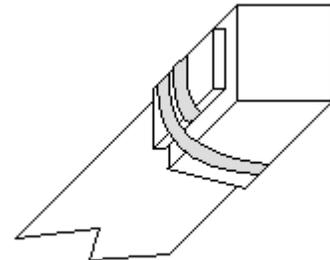

Figure 2
2. Tape each of the 1 1/2" x 8" pieces of the 1/4" closed cell foam over the end of the sword, using strapping tape. You may trim the ends so they are even if you wish, but be sure there at least 2 inches of foam down the sides of the rattan. Your sword will now look like Figure 2. (For a fibreglass shafted spear, repeat this step two more times, using 2" x 14" and 2 1/2" x 18" strips of closed cell foam.)